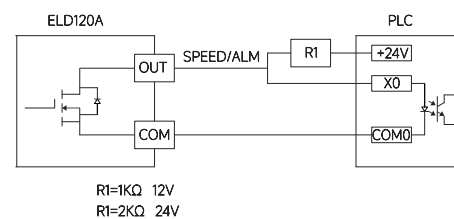

Figure2
- Alarm output (default output mode): When the controller doesn't work, and the alarm code would be displayed on the displayer. When the OUT output port is set as alarm output, OUT and COM will be connected at this time, OUT port is low level---Figure 2.
- Speed output: When the motor is running, it will synchronize the current motor speed and output the corresponding frequency 1RPM=1HZ (please contact sales for setting)---Figure2